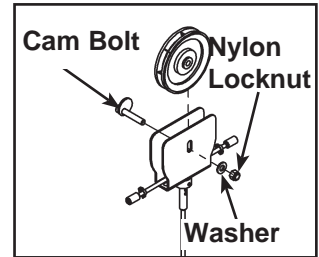

Figure 2
E. Locate the pulley bracket that is located near the cam. See Figure 2.